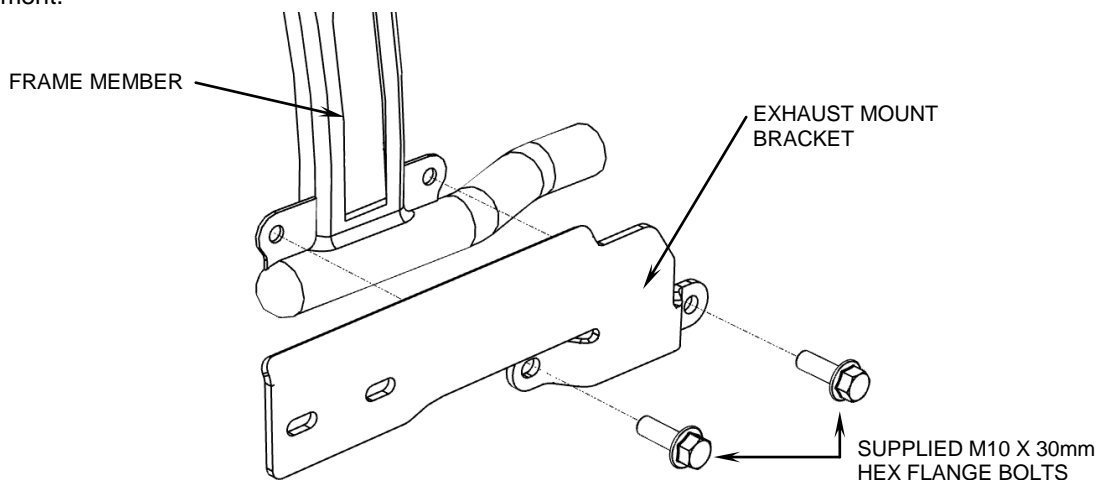

FIGURE 1
3. Install the Cobra supplied exhaust mount bracket to the frame using the supplied M10 x 30mm hex flange bolts, see Figure 1. **DO NOT TIGHTEN AT THIS TIME.**